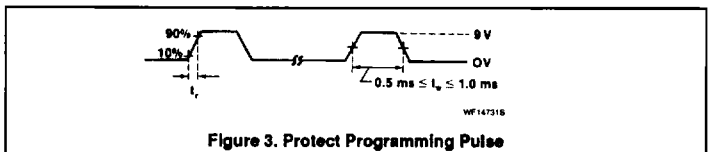

Figure 3. Protect Programming Pulse
Step 2: Taking one pin at a time, apply a protect programming pulse (Figure 3) to each user-bus bit (UD0 – UD7) — refer to Table 3 for Min/Max specifica-